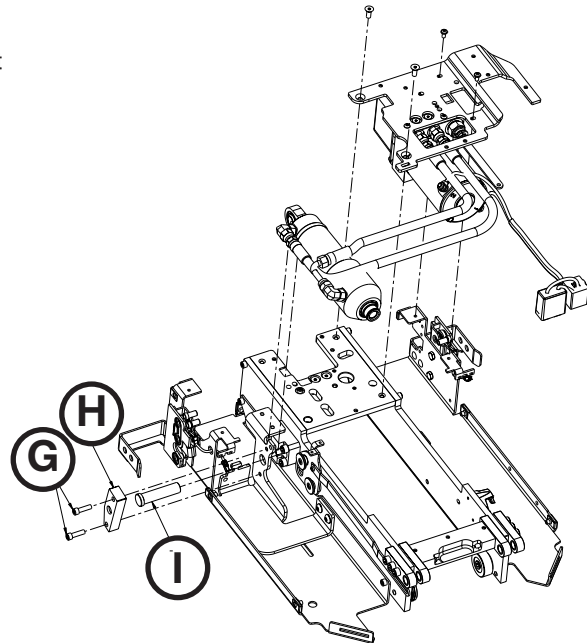

Figure 73
- Using a 3/16" hex wrench, remove the two screws (G) that secure the pin bracket (H) to the trolley (Figure 73).
- Remove the pin (I) and lift the hydraulic cylinder out (Figure 73).